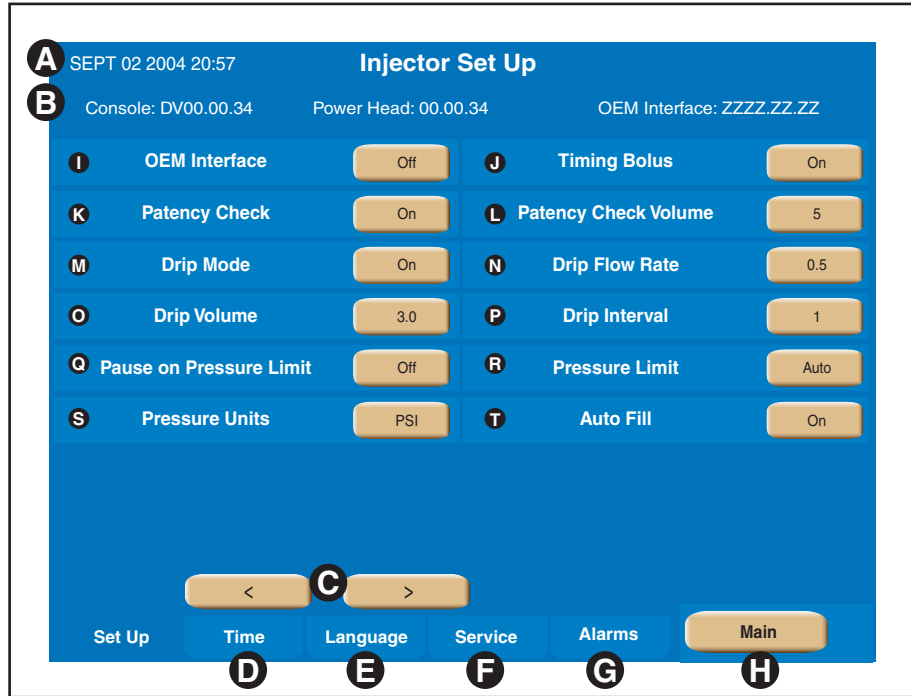

Figure 3-1-11 Injector Set Up 1 Screen
Refer to Figures 3-1-11 and 3-1-12.
[<, >] keys (C) — These keys allow the user to toggle between the two Set Up screens as shown in Figure 3-1-11 and 3-1-12.
Select the Language from among the selections located under the [Language] key (F in Figure 3-1-11)
Display the Alarm History screen by pressing the [Alarm] key (ⓐ) in Figure 3-1-11). Pressing the [<, >] keys (ⓑ) in Figure 3-1-16), displays the most recent Alarms (up to 24) (on the console screen only) along with the protocol's settings at the time of the alarm.